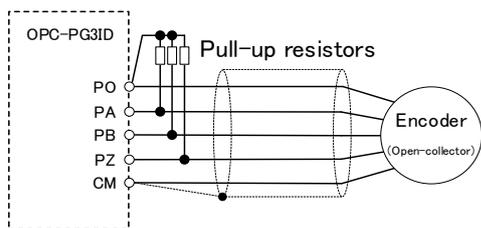
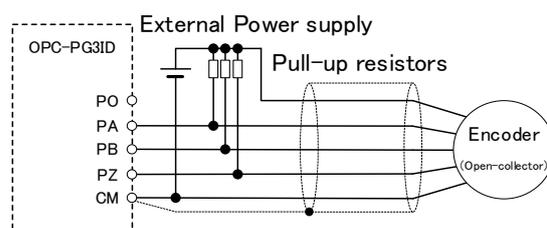

Figure 9.2 Application of Pull-up resistors
Figure 9.3 Application of Pull-up resistors and External power supply
- *3 External pull-up resistors may be necessary between PO and PA, PB, PZ depending on maximum pulse frequency and encoder wiring length when open-collector type encoder is applied. If PO current exceed its maximum values due to the pull-up resistors, the external power supply for the encoder may be necessary. Refer to Figure 9.2, Figure 9.3, Table 9.1, Table 9.2 Table 9.3. The stray capacitance of encoder wiring is 0.3nF/m or less per phase for guide line of the installation.